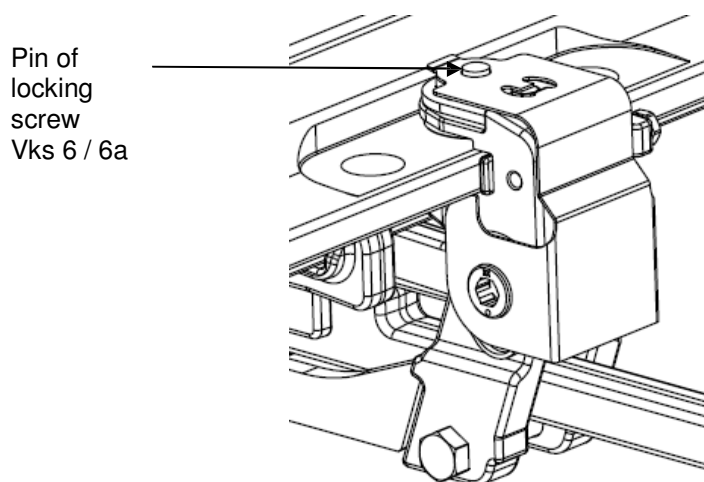

Fig. 12 Fixing by snapping over the pin of the locking screw
- Protection of the locking screw by snapping of upper hole over the pin of the locking screw (Fig. 12)